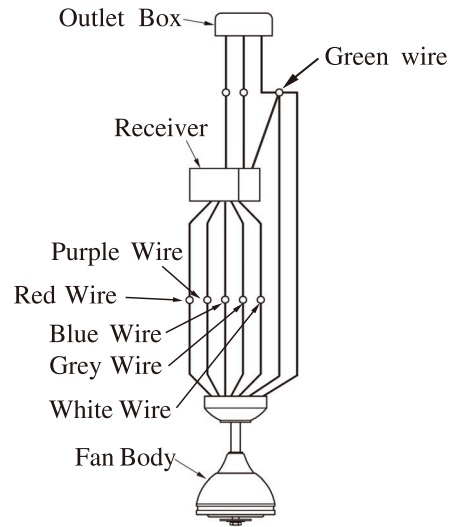

FIG.6
2. Connect the red wire from receiver to the red wire from fan with wire nut. Connect the purple wire from receiver to the purple wire from fan with wire nut. Connect the blue wire from receiver to the blue wire from fan with wire nut. Connect the grey wire from receiver to the grey wire from fan with wire nut. Connect the white wire from receiver to the white wire from fan with wire nut. Connect the green or bare copper wire from outlet box to the green wires from receiver, hanger bracket and downrod ball with wire nut. (See fig.6)